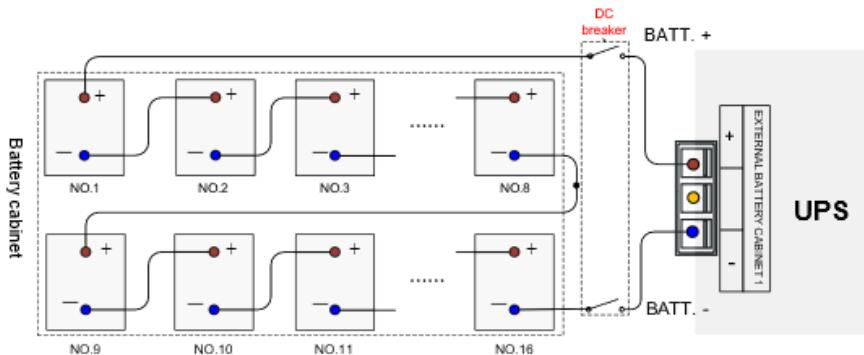

Figure3-15 Wiring diagram
- Step 3 Wiring between UPS and external battery are shown in Figure3-15.
the external wiring includes BATT.+ and BATT.- , as shown in Figure3-15.